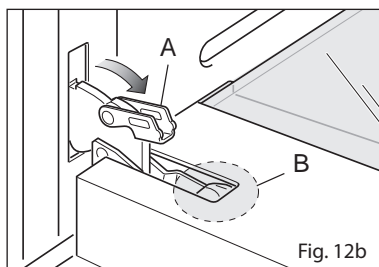
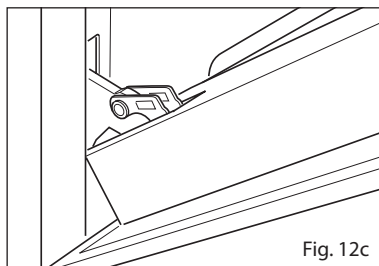

Fig. 12b
Fig. 12c
- Open the lever **A** completely on the left and right hinges (fig. 12b).
- Gently close the door (fig. 12c) until left and right hinge levers **A** are hooked to part **B** of the door (fig. 12b).